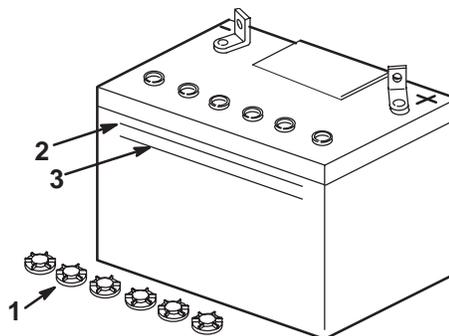

Figure 25
3. Look at the side of the battery. The electrolyte must be up to the Upper line (Fig. 25). Do not allow the electrolyte to fall below the Lower line (Fig. 25).
3. Remove the filler caps from the battery (Fig. 25).
4. Slowly pour distilled water into each battery cell until the electrolyte level is up to the Upper line (Fig. 25) on the battery case.
5. Wait five to ten minutes after filling the battery cells. Add distilled water, if necessary, until the electrolyte level is up to the Upper line (Fig. 25) on the battery case.